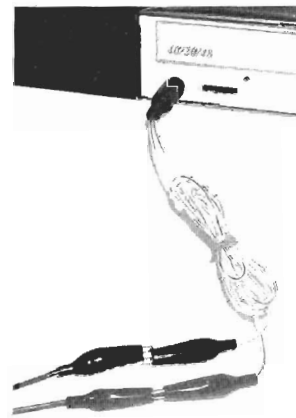

Figure L49-15
- Attach your “Test Cord” clips to the same color clips of the scope probe as shown in Figure L49-15.